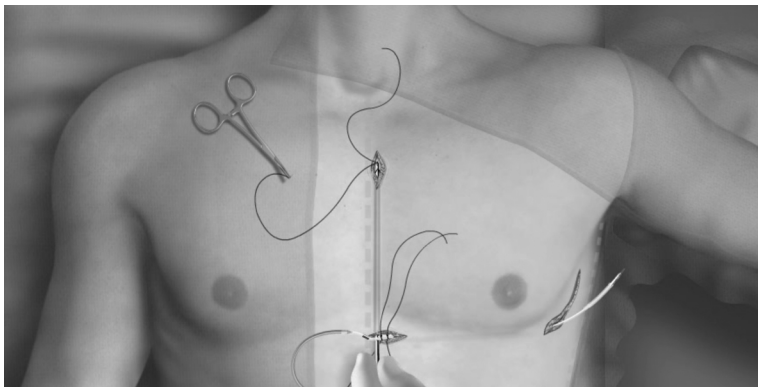

Figure 14. Tunneling to Superior Incision
7. Insert the distal tip of the EIT into the xiphoid incision and tunnel subcutaneously towards the superior incision, staying as close to the deep fascia as possible (Figure 14 Tunneling to Superior Incision on page 40).